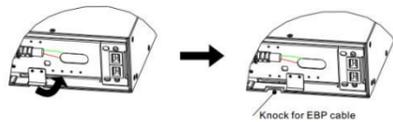

Figure2 Removing the UPS and EBP Cable Knockout
2. On the bottom of the UPS front cover, remove the EBP cable knockout (see Figure 2).